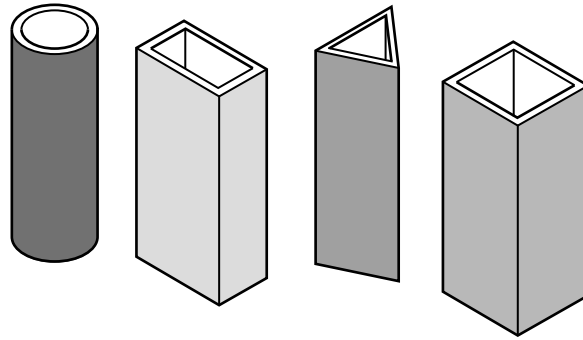

Fig. 15
- (f) Fig. 15 shows hollow section plastic shapes that could also be used in the shape sorting toy.